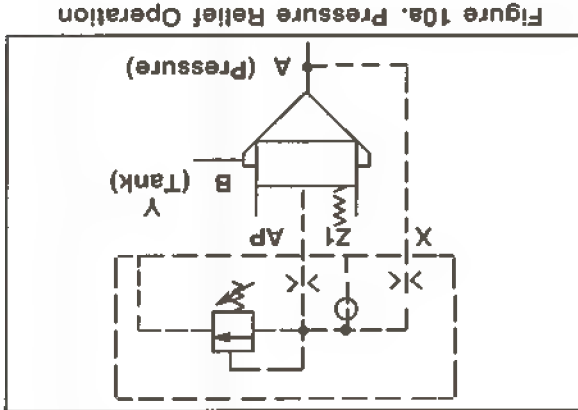

Figure 10a. Pressure Relief Operation
Figure 10a illustrates the operation of the pressure relief valve. The orifice plug at the (AP) area dampens the reaction time of the insert poppet and prevents instability. When system pressure at the (AP) area exceeds the pressure at the (AP) area, the insert poppet lifts off its seat and allows flow from (A) port to (B) port (tank). This relieves system pressure at the (A) port.